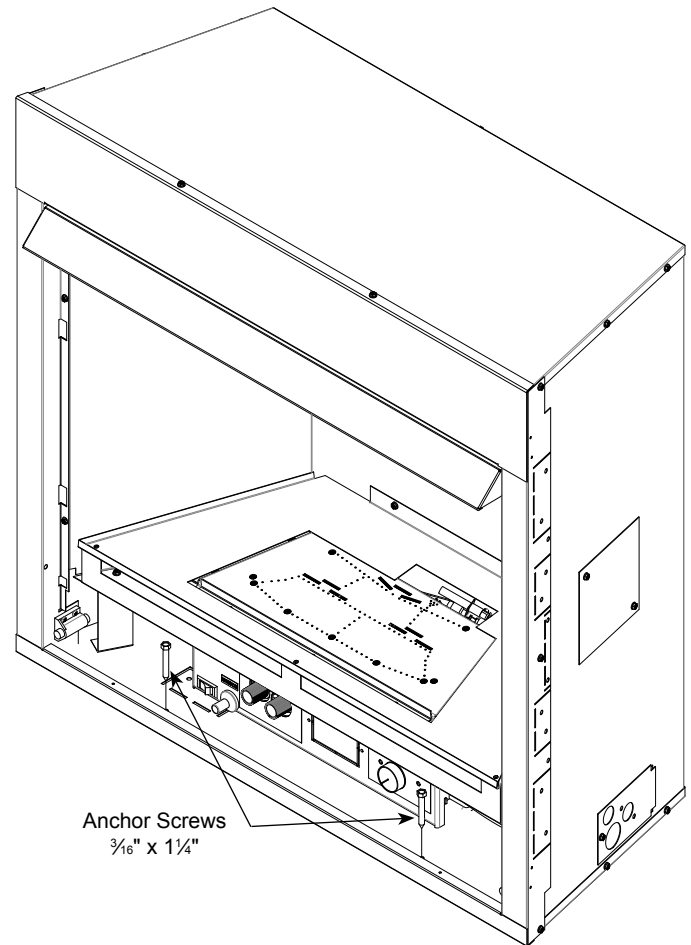

Figure 9 - Secure Fireplace to Floor or Hearth
2. Secure the firebox with two anchoring screws ($\frac{3}{16}$ " x $1\frac{1}{4}$ " length) supplied with the fireplace system. *Figure 9*